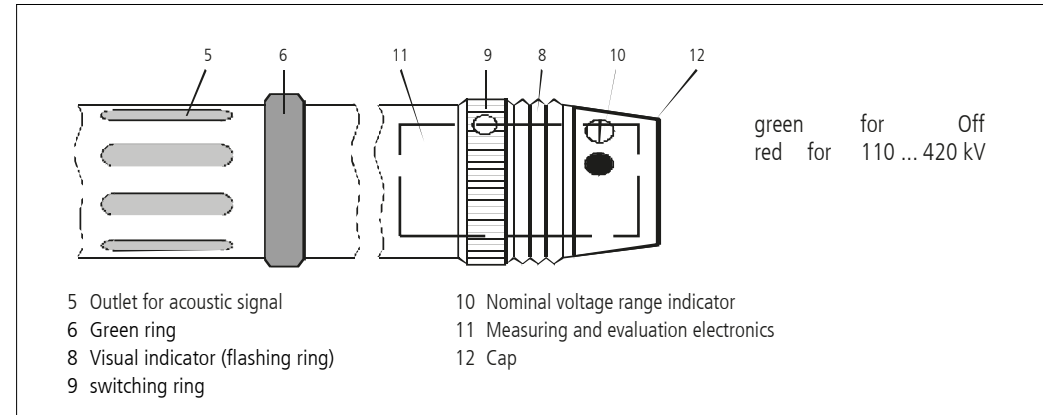

Fig. 5: operating head with indicator
- 6.1 Untighten the axial flat headed screw in the cap (Fig. 5) and remove the cap.